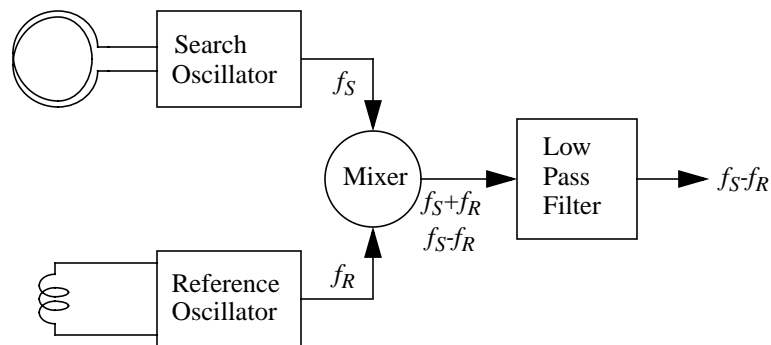

FIGURE 1. Basic Oscillator/Mixer
The basic BFO employs two radio frequency (RF) oscillators which are tuned to very nearly the same frequency. The frequency of each oscillator is usually determined by an L-C resonant circuit, that is, an inductor and a capacitor. One is called the *search* oscillator and uses the search coil as its inductor; the other is called the *reference* oscillator and uses an internal inductor. The outputs of the two oscillators are fed into a mixer which produces a signal that contains the sum and difference frequency components (plus other intermodulation components) of the two input signals. As we will see shortly, the difference frequency is what we are interested in, and a low-pass filter at the output of the mixer will remove the other components. Figure 1 shows a block diagram of the oscillator/mixer setup.
The search coil windings are also sensitive to some undesirable effects. In Figure 1 we saw that the search oscillator frequency is set by the search coil inductor and a capacitor. The value of this capacitor is mostly determined by a physical device, but there is also a parasitic term to it. The parasitic portion comes from distributed capacitances in other circuit devices, the search coil cable, and the search coil windings. We are not so much concerned with the existence of these parasitics, but with their stability. The search coil windings usually present the greatest problem so we will focus on that.